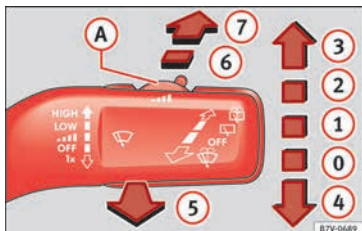

Fig. 44 Operating the windscreen wiper and rear wiper
Windscreen wipers interval wipe. Using the control » Fig. 44 (A) adjust the interval (vehicles without rain sensor), or the sensitivity of the rain sensor.